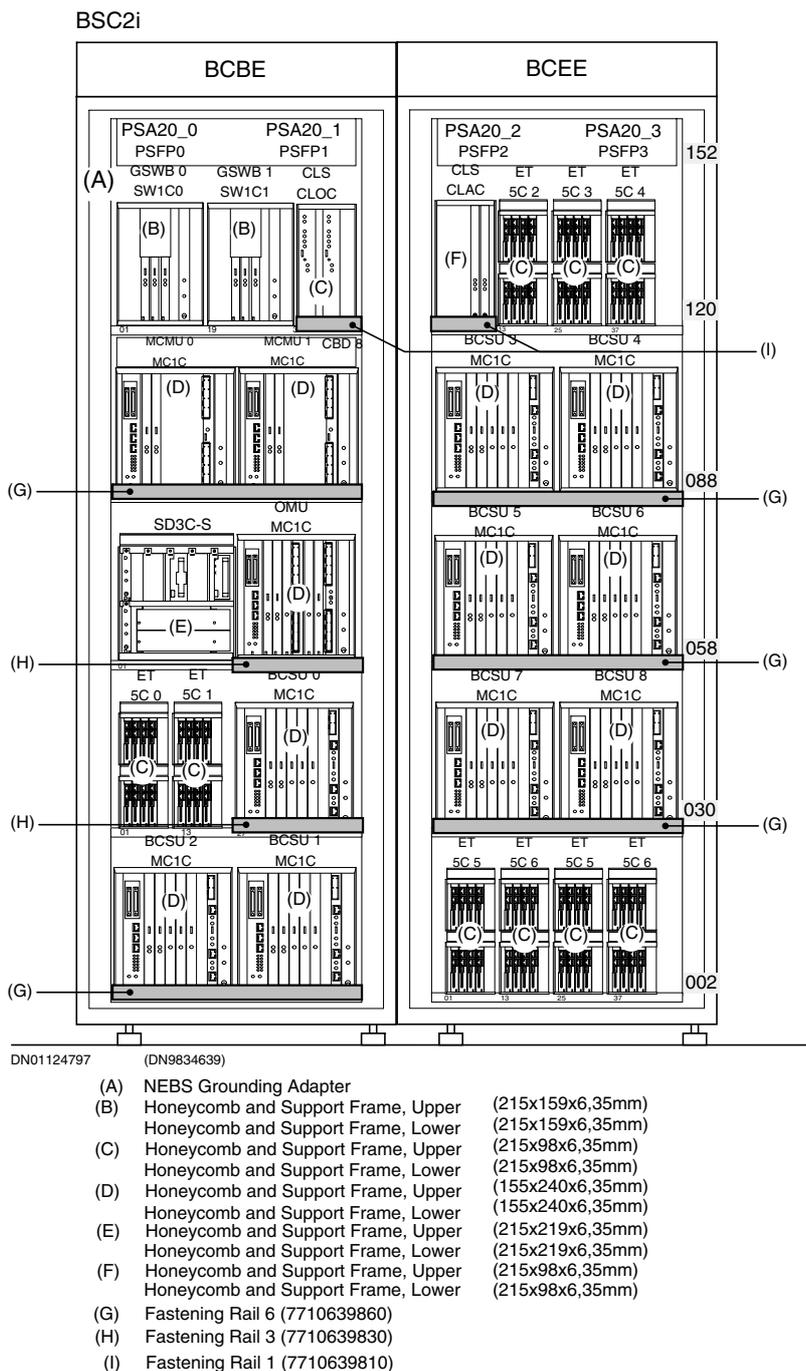

Figure 1. Fire protection sets for BSC.
- Figure 1. Fire protection sets for BSC. **15**